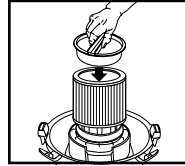

FIGURE 13
20. Place filter retainer into the top of the cartridge filter. **FIGURE 13.**